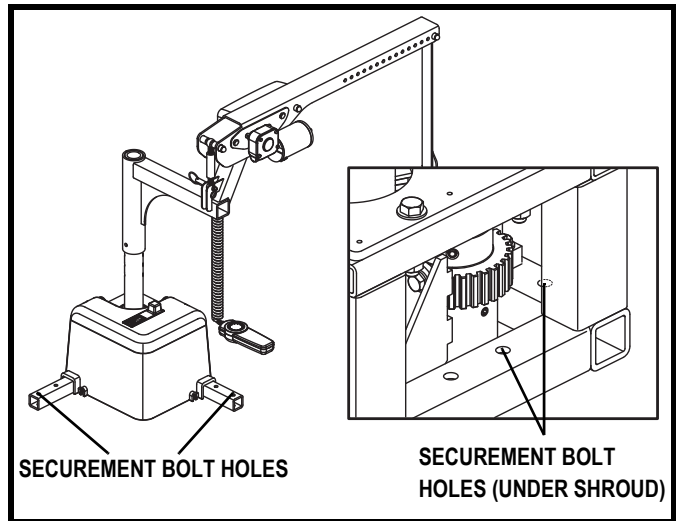

Figure 3B. Optional Offset Arm with Power Base
**NOTE:** For a model with a power base, two bolts will be installed beneath the shroud of the power base. See figure 3B.